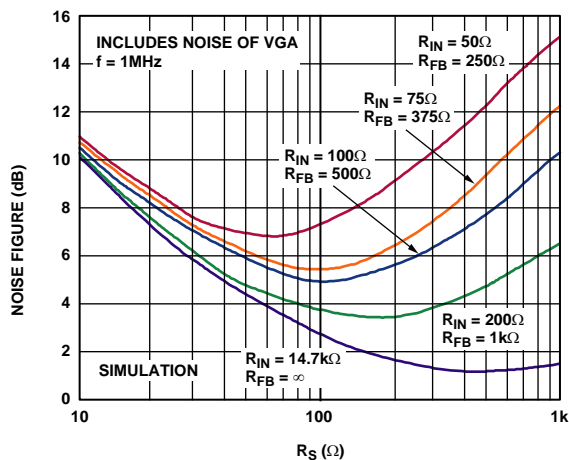

Figure 56. Simulated Noise Figure vs.  $R_S$  for Various Fixed Values of  $R_{IN}$ , Actively Matched
Figure 56 shows the simulated noise figure (NF) vs. source resistance, and various values of preamplifier  $R_{IN}$  from 50  $\Omega$ , to 14.7 k $\Omega$ , the value seen looking into Pins PIPx when  $R_{FB} = \infty$ . As shown in the figure, the minimum NF for  $R_{IN} = 50 \Omega$  is slightly less than 7 dB. Note that, for this preamplifier, the NF is optimized for the  $R_{IN}$  from 50  $\Omega$  to 200  $\Omega$ ; for  $R_{FB} = \infty$ , the minimum NF is at approximately 480  $\Omega$ . This optimum noise resistance can also be calculated by dividing the input referred voltage noise by the current noise.